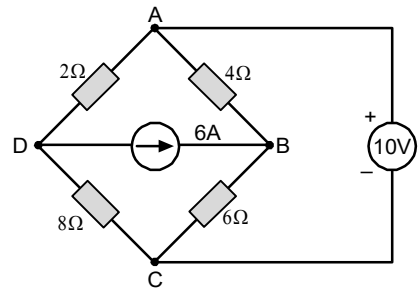

Fig.1.62: Given network
7. Find the total power delivered to the circuit by two sources in fig.1.62. (Ans. $164W$)